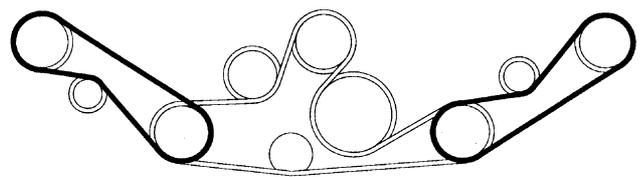

Figure 15
5. Route new belts around the spindle pulleys and through the idler pulley assemblies as shown in figure 15.